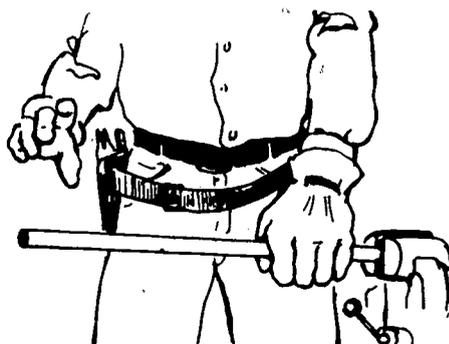

FIGURE 3
- C. Secure pipe or conduit for cutting (Figure 3).